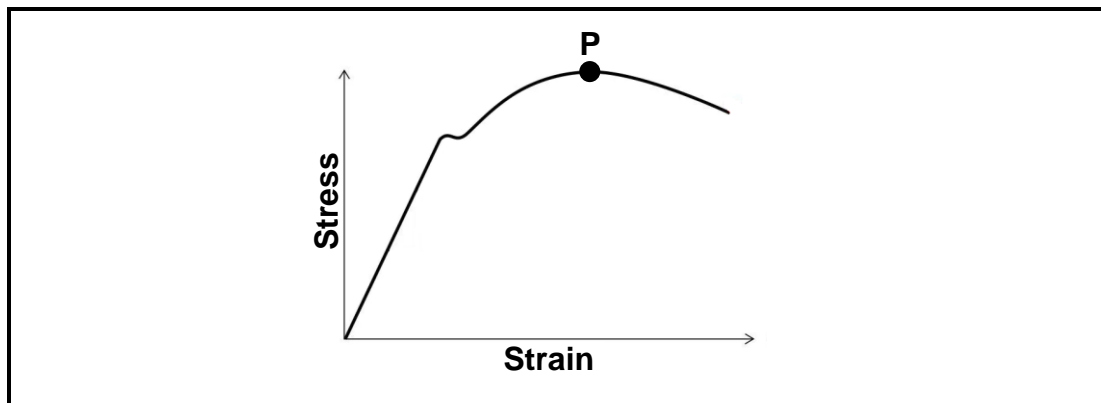

**FIGURE 4.6**
4.6 FIGURE 4.6 below shows a blowtorch. Component **X** indicated on the diagram is the ...